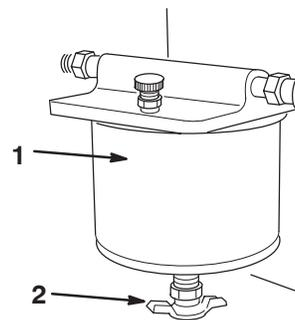

Figure 4
3. Turn the drain valve until the water runs out of the filter (Fig. 4).